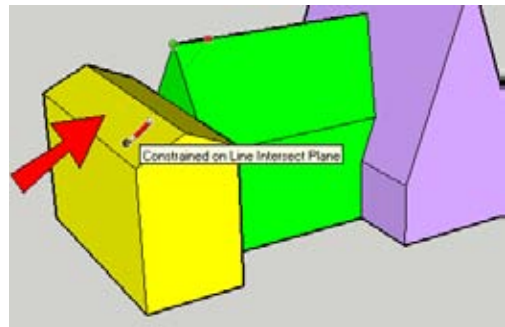

Figure 5-59
9. Shift-lock this line to the far yellow face. Depending on your roof slopes, the line might end somewhere past the current ridge line or instead end somewhere within the line (as in this example, shown in Figure 5-59).